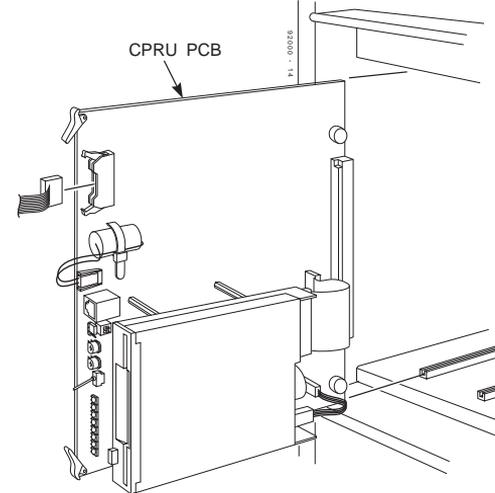

Figure 2-4 INSERTING THE CPRU
3. Insert the CPRU into the CPU slot in the Main Cabinet (Figure 2-4).
3. Using the cables provided with the Message Wait Power Supply PCBs, connect the Main Cabinet (CN4 connector) to the Expansion Cabinet #1 (CN2 connector). Then, connect Expansion Cabinet #1 (CN3 connector) to Expansion Cabinet #2 (CN2 connector). Refer to Figure 2-4.